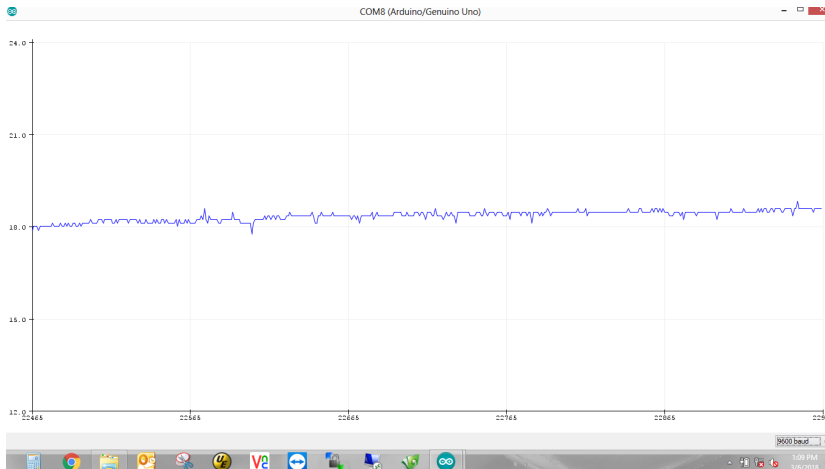

Figure 8: Serial plotter window. Note that the ordinate is in mbar.
4. On the laptop in the cleanroom, open the first Arduino file QC3_Pressure_Monitor (figure 7), and upload the code to the Arduino. After the code is successfully uploaded, select Tools > Serial Plotter. This will open a window displaying a plot (see figure 8) of the real-time pressure variation (ordinate axis is pressure in mbar), which is helpful for establishing the correct pressure in the detector, and also for troubleshooting leaks.